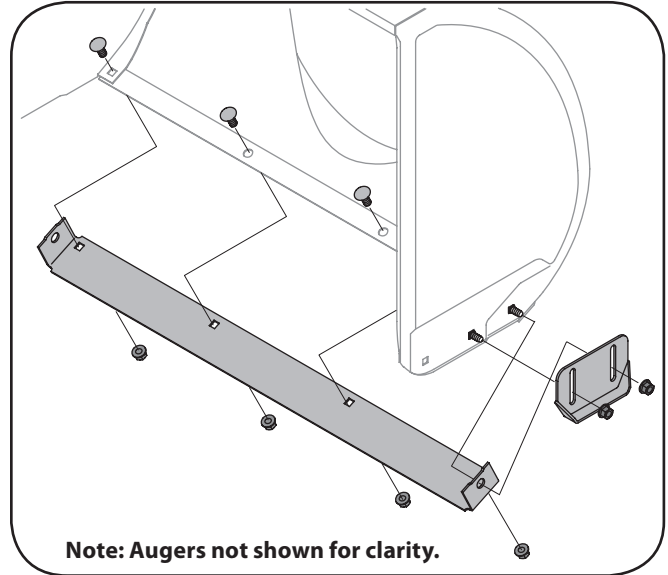

Figure 6-1
1. Remove the carriage bolts and nuts securing each skid shoe to the auger housing, See Figure 6-1.
1. Remove both skid shoes and hardware including carriage bolts and nuts which attach shave plate to the snow thrower housing. For location of shave plate, see Figure 6-1.